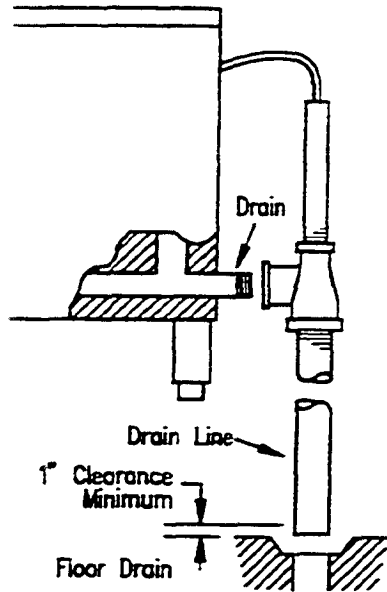

Figure 2-7. Drain Layout and Connections
- Furnishing and installing the fittings and drain line is the responsibility of the owner and/or installer. Figure 2-7 illustrates a drain layout recommended by Cleveland Range. Observe the following instructions to determine the pipe size, the number of fittings required, and the layout of the drain line path.
7. The EconoCraft is supplied with the drain assembly attached to the unit (Figure 2-7). The overflow tube functions in free air venting and must extend upward from the tee.